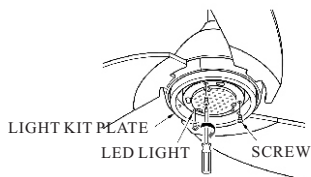

FIG.18
5. Tighten the light kit by using the 3 screws removed in step 3 (see Fig.18)